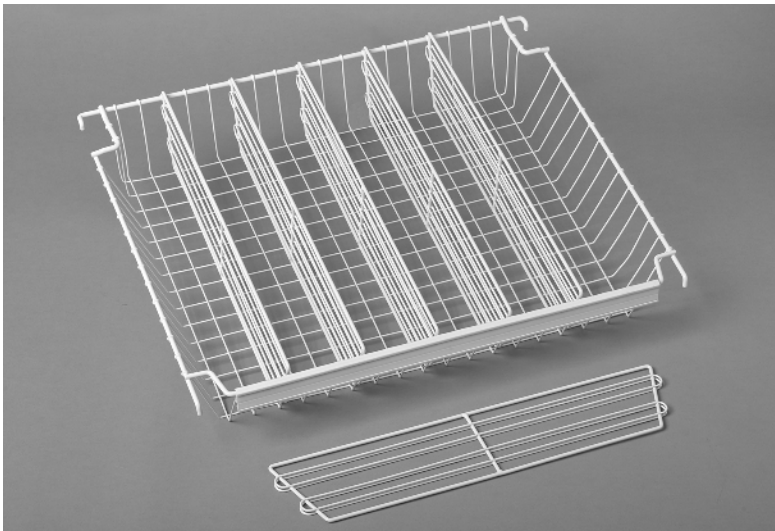

Figure 14
2. Clip-on dividers. Dividers clip on front and rear shelf wires. Refer to Figure 14.